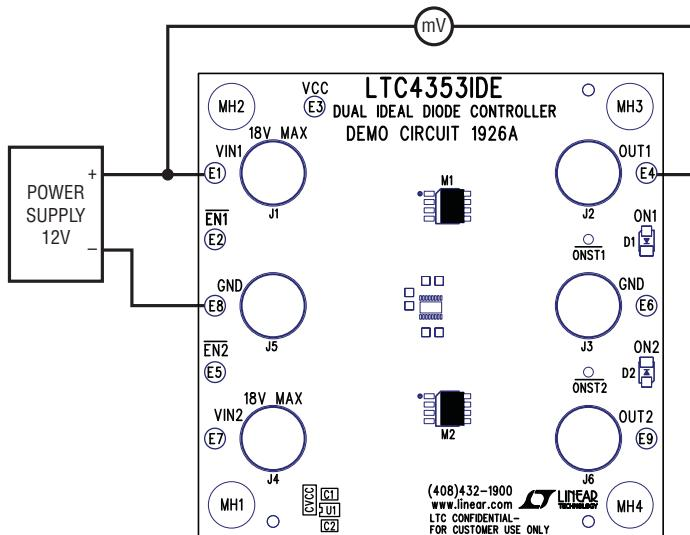

Figure 1. Ideal Diode Regulation Voltage Measurement
1. Connect a 12V power supply to $V_{IN1}(+)$ and GND (-) of the DC1926A. Place a millivoltmeter between the input (V_{IN1}) and output (OUT1) turrets (refer to the diagram of Figure 1). This is the controller regulation voltage. The regulation voltage should be in the range of 2mV to 50mV.